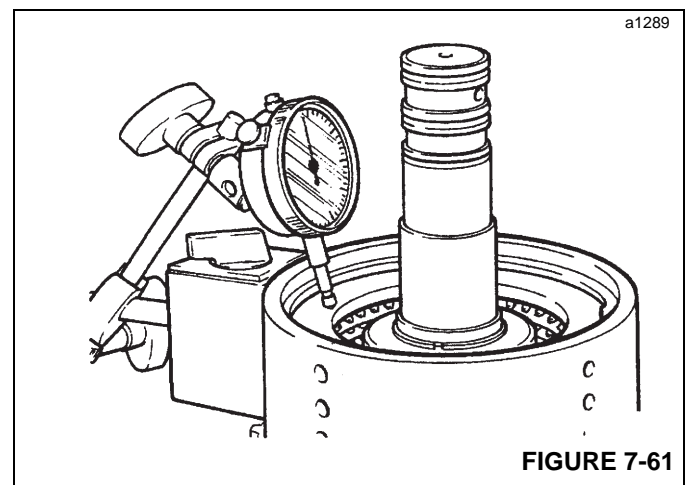

FIGURE 7-61
11. Using a dial test indicator as shown in Figure 7-61, measure the end play of the pressure (end) plate (counter plate on later assemblies), which should be 3.2 to 4.4 mm (0.126 to 0.173 in). If necessary, install a shim between the retaining ring and pressure (end) to correct end play inaccuracies.